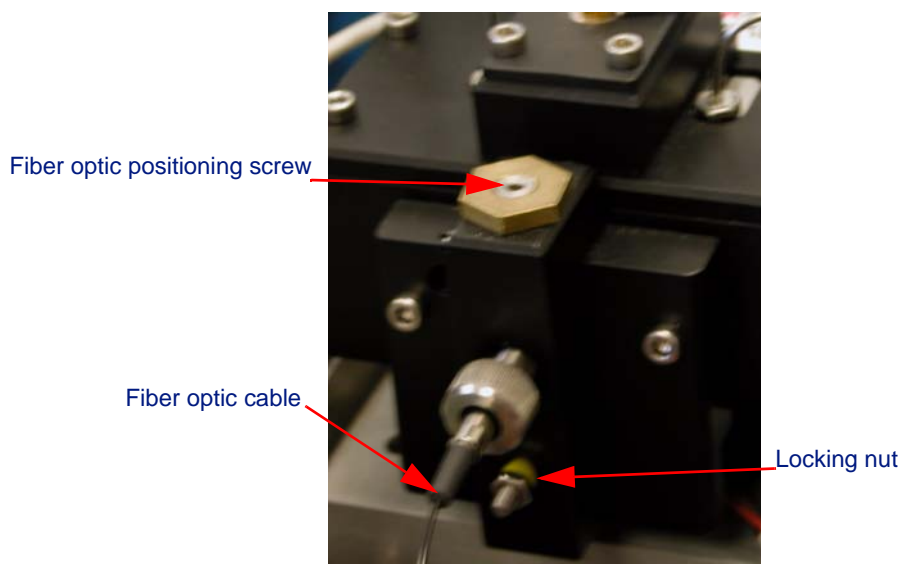

Figure A-3: Adjusting the fiber positioner for the miniDAWN TREOS QELS
5. Using a 2.0 mm hex driver, rotate the adjustment screw on the top of the QELS fiber mount (see Figure A-3). This drives the fiber up and down so that its field of view sweeps past the laser beam. The fiber is positioned correctly when the count rate is maximized. This is accomplished by rotating the fiber counter-clockwise until the fiber is at the top of the mount. Stop when the adjuster screw is about 3mm above the top of the mount. If turned too far, the adjuster screw will come out. If this happens, simply screw it back into place, taking care not to cross the threads.